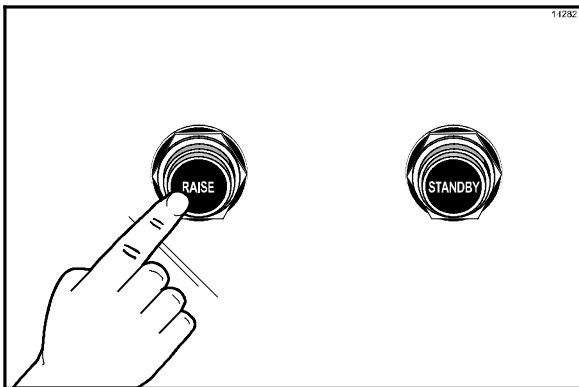

Figure 27
2. To raise the upper platen to the OPEN position to resume cooking, press the RAISE button. (See Figure 27.)